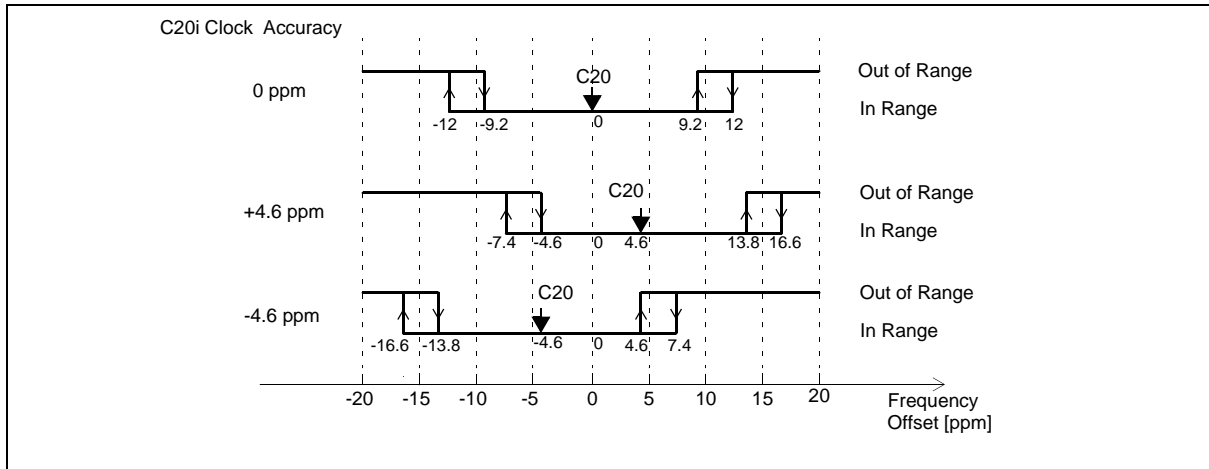

Figure 7 - Primary and Secondary Reference Out of Range Thresholds
- Slow Response Detector (High Precision): This detector detects if the primary reference is off its nominal frequency by more than ± 12 ppm. The frequency offset monitor updates internally every 10 sec and will change state after two matching measurements (PASS/PASS or FAIL/FAIL). This is in full compliance with the GR-1244-CORE requirement of 10 to 30 sec Reference Validation Time. This output returns to zero when the reference frequency is requalified within ± 9.2 ppm of the nominal frequency (monitor circuit has built-in hysteresis). In an extreme case, when over time the Master Clock oscillator drifts ± 4.6 ppm the switching thresholds will change as well, as is shown in Figure 7.